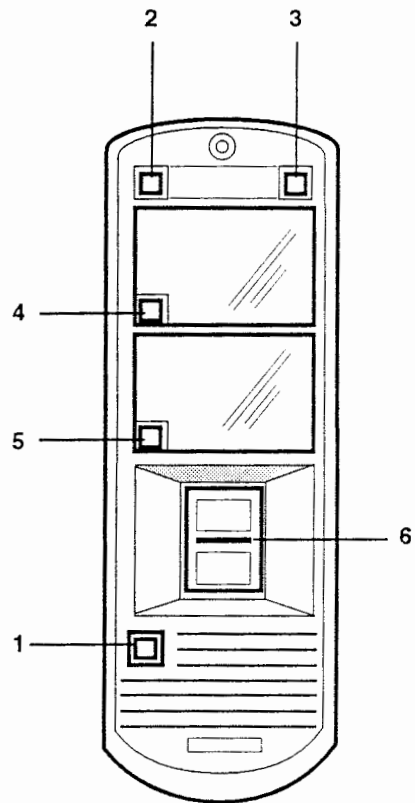
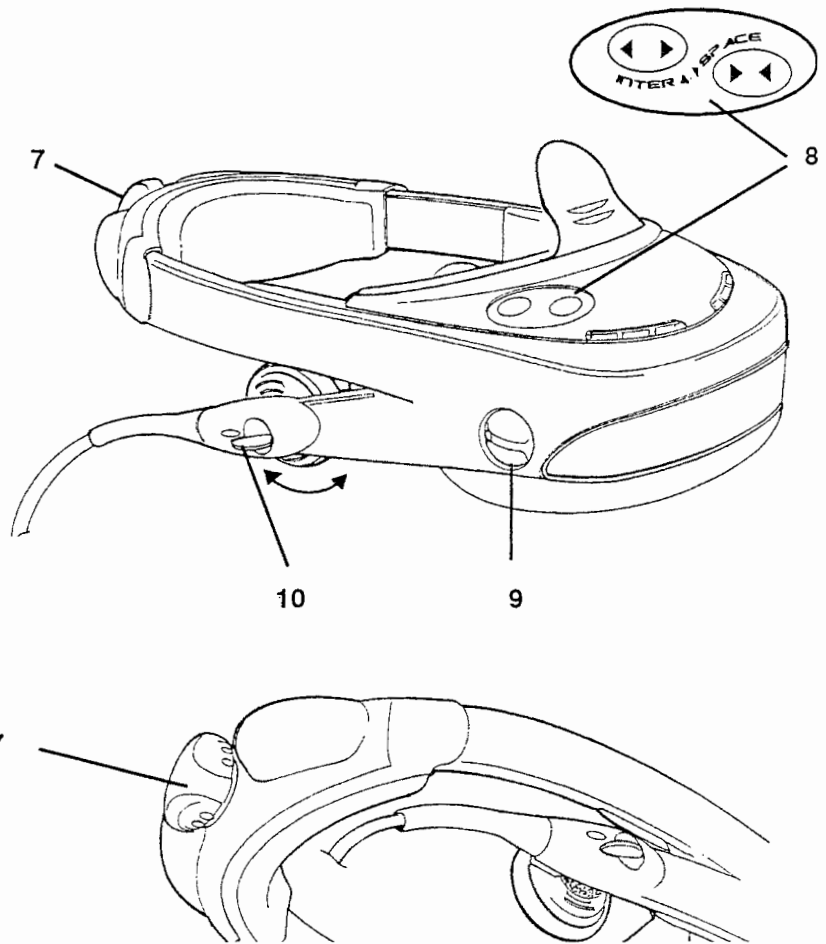

Fig. 2.1.1
Fig. 2.2.1
A. FRONT CONTROL PANEL (see Fig. 2.1.1)
1. The player is credited either by inserting a Virtuality[®] V-Card (magnetic credit card) into the the card reader slot on the front control panel (see Fig. 2.1.1), or by inserting a 'V-KEY' into the appropriate slot on the control panel (see Fig.2.1.1) – depending on which credit option is fitted to the machine. For further details, see CREDIT SYSTEMS.
2. The player or operator should now press the green SOLO PLAY button (2) on the front control panel.
4. The player then takes the Visette[®] from it's stowage point, releases the rear knob, places it on his or her head as shown (see Fig. 2.2.1), and adjusts it to fit using the rotating knob at the rear of the visor.
5. The player can then adjust the inter-ocular distance if required, using the the rocker switch at the front right of the Visette[®] (see Fig. 2.2.1).
6. Focus can be adjusted using the two rotating dials on either side of the Visette[®] (see Fig. 2.2.1), until the optimum picture sharpness is obtained for each eye. A focus screen image is provided at the start of each Experience for this purpose.
1. The players are credited either by inserting a credit card into the the card reader slot on the front control panel (see Fig. 2.1.1), or by inserting a 'V-KEY' into the appropriate slot on the control panel of either machine (see Fig. 2.1.1) – depending on which credit option is fitted to the machines.
3. The operator or one of the players should now press the yellow LINK UP button (3) on either front control panel to select a two player interactive game.